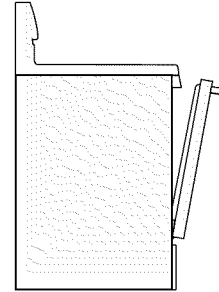

Figure 32: Broil stop position
2. Position bakeware in oven. Leave door open at the broil stop position (Figure 32).